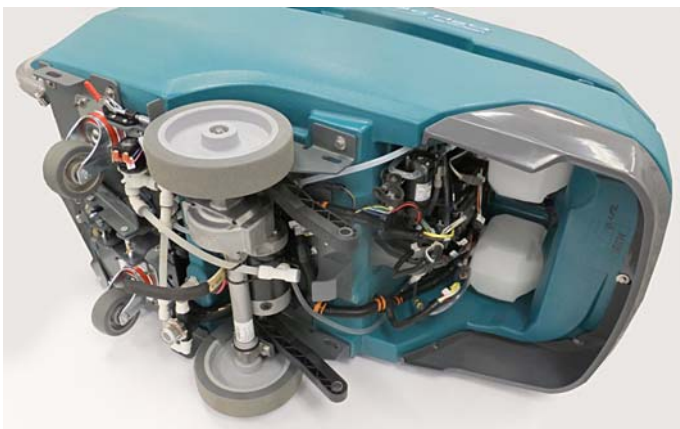

Fig. 14
- On a non-marring surface, with assistance, carefully lay the machine on its left side to access bottom side of machine (Figure 14).